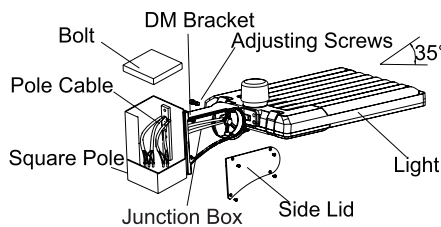

Figure 11
Step 1: Fix DM bracket to square pole with bolt, put the connected wire into pole. (Fig. 11)
Notice: Adjustable angle is 0-35° (Fig. 11)